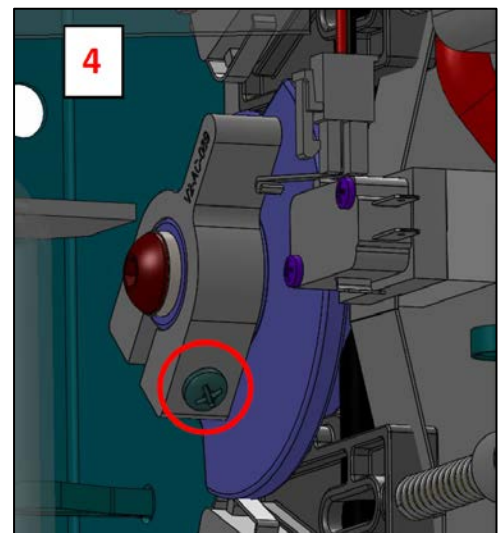

Figure 4: Remove Circled Screw from Actuator
6. Remove the #8 screw and retain. See red circled area in **Figure 4** for location.